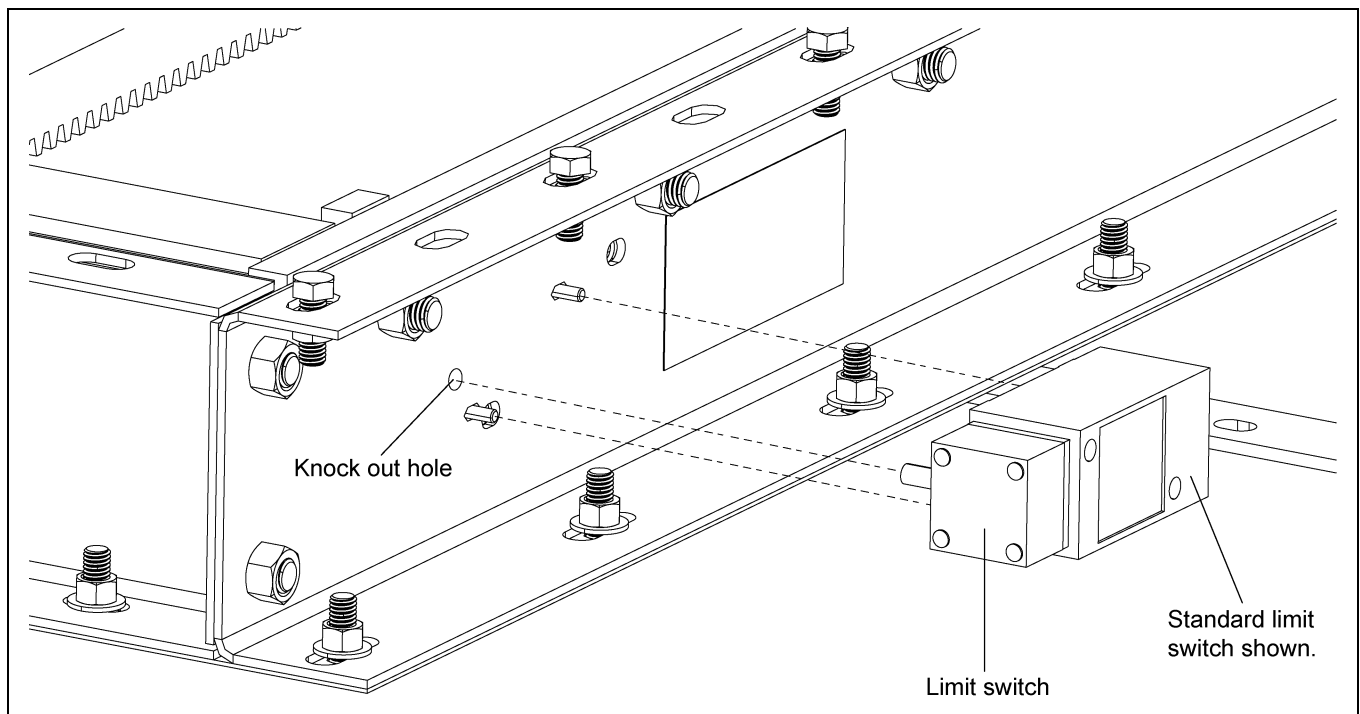

Figure 3F
2. Install limit switch to the outside of the gate frame. Knock out the hole where indicated to install switch through gate frame. (See Figure 3F.)